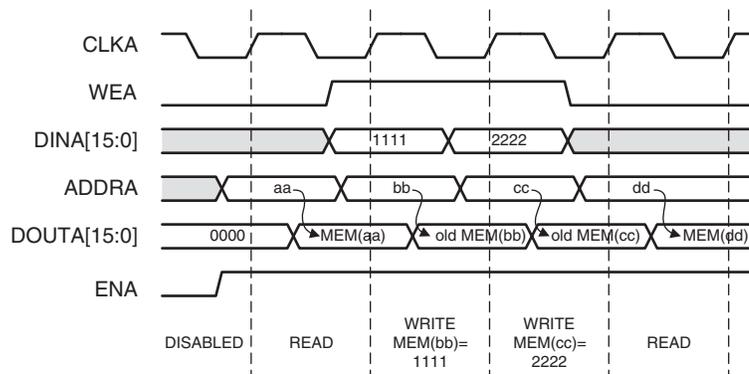

Figure 10: Read First Mode Example
- Read First Mode:** In READ\_FIRST mode, data previously stored at the write address appears on the data output, while the input data is being stored in memory. This read-before-write behavior is illustrated in Figure 10.